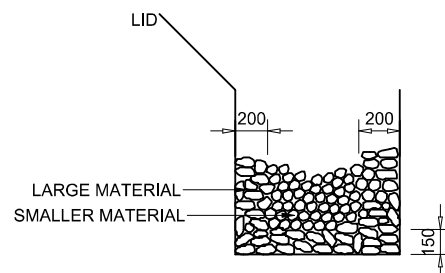

FIGURE 7
3. IN AREAS WHERE LARGE ENOUGH FILL IS DIFFICULT TO OBTAIN, THE COMPARTMENT IS LINED WITH LARGE MATERIAL AND THE INTERIOR FILLED WITH SMALLER. THE SMALL MATERIAL CAN BE 5% TO 7% OF THE FILL (FIGURE 7). CARE SHALL BE TAKEN IN PACKING THE VISIBLE FACES OF GABION BOXES WHERE ONLY SELECTED STONE OF THE SPECIFIED SIZE SHALL BE USED SO AS TO OBTAIN AN EVEN FACED FINISH.